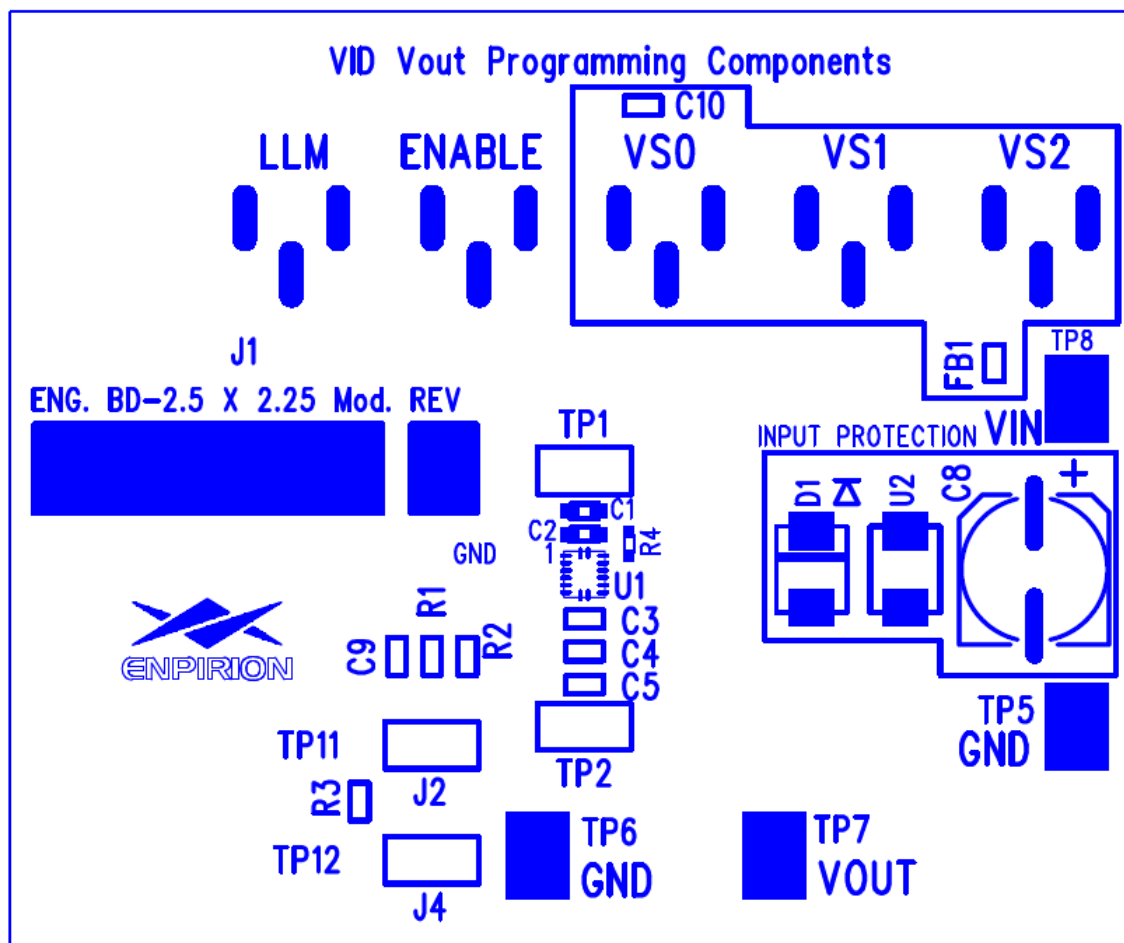

Figure 1. Evaluation Board Layout.
This application note describes how to test the EP5357xUI (EP5357LUI, EP5357HUI) converters using the Altera Enpirion 2.5mmx2.25mm Module EVAL BOARD shown in Fig. 1. In addition to this document you will also need the device datasheet for a thorough evaluation of the power converter module.
STEP 2: Connect a power supply to the input test points, TP8 (VIN) and TP5 (GND) as indicated in Figure 1. The same test points can also be used to measure the input voltage.
STEP 4: Connect the load to the output connectors TP7 (VOUT) and TP6 (GND), as indicated in Figure 1. The same test points are also used to measure the DC output voltage.